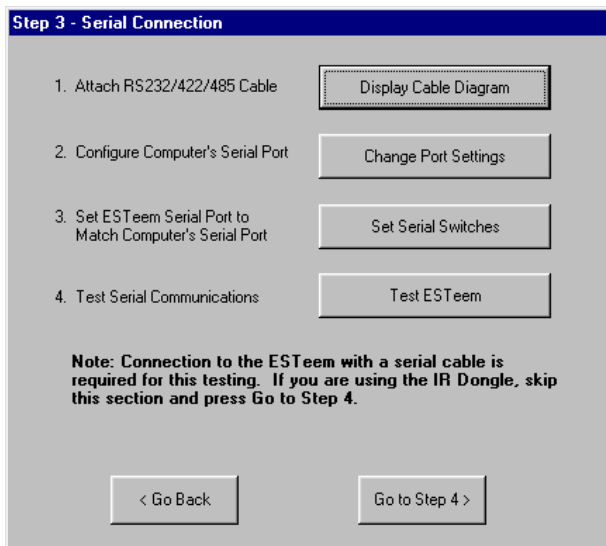

Figure 8: Step 3 – Serial Connection
- Step 3 – Serial Connection window will be displayed (Figure 8). This step will help configure the computer and the ESTeem to communicate with each other.